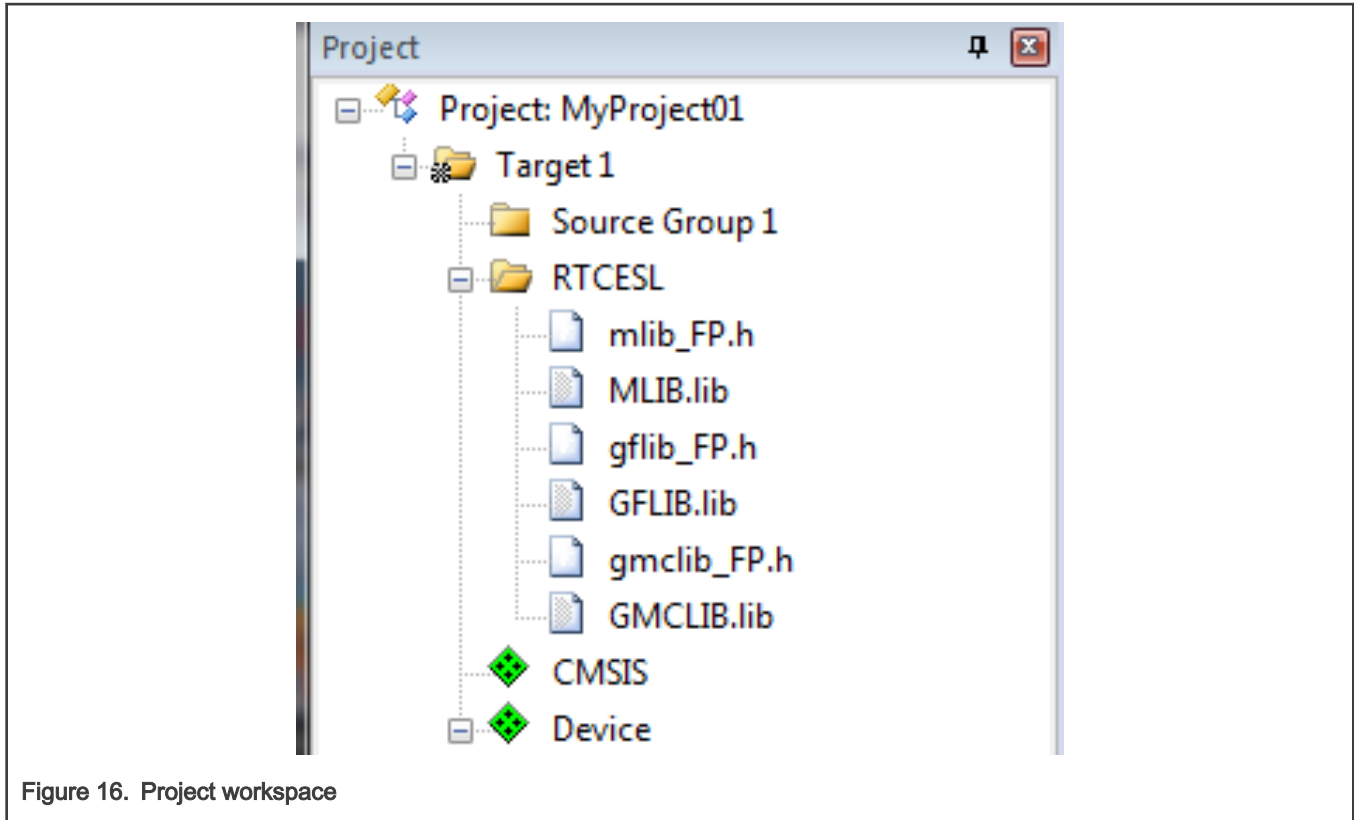

Figure 16. Project workspace
10. Now, all necessary files are in the project tree; see Figure 16. Click Close.